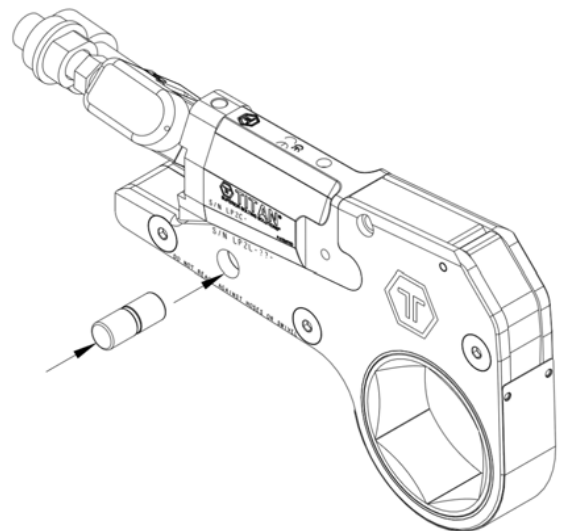

Figure 6 Cylinder and Link Assembly Step 3
3. Insert mating pin till flush with the link as shown in Figure 6.